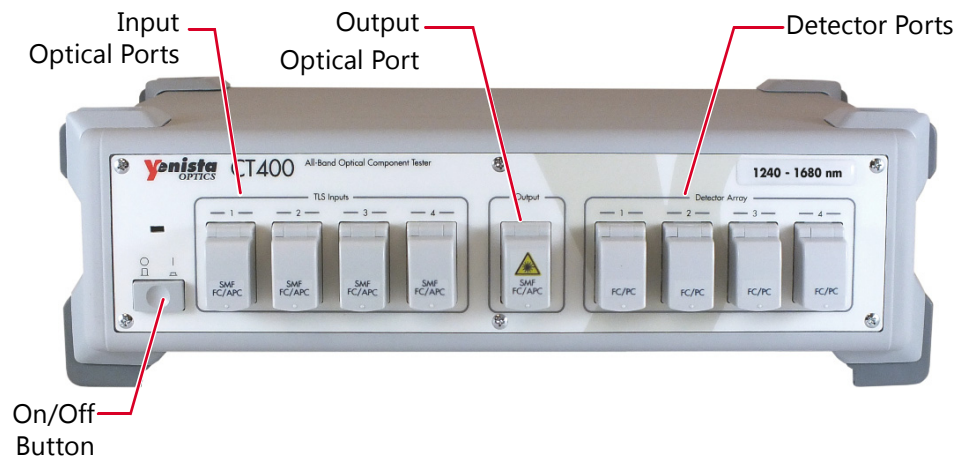

Figure 2: Front Panel (SMF Type)
2. On the front panel (see *Figure 2, p. 14*), press the On/Off button.
1. On the front panel (see *Figure 2, p. 14*), press the On/Off button.